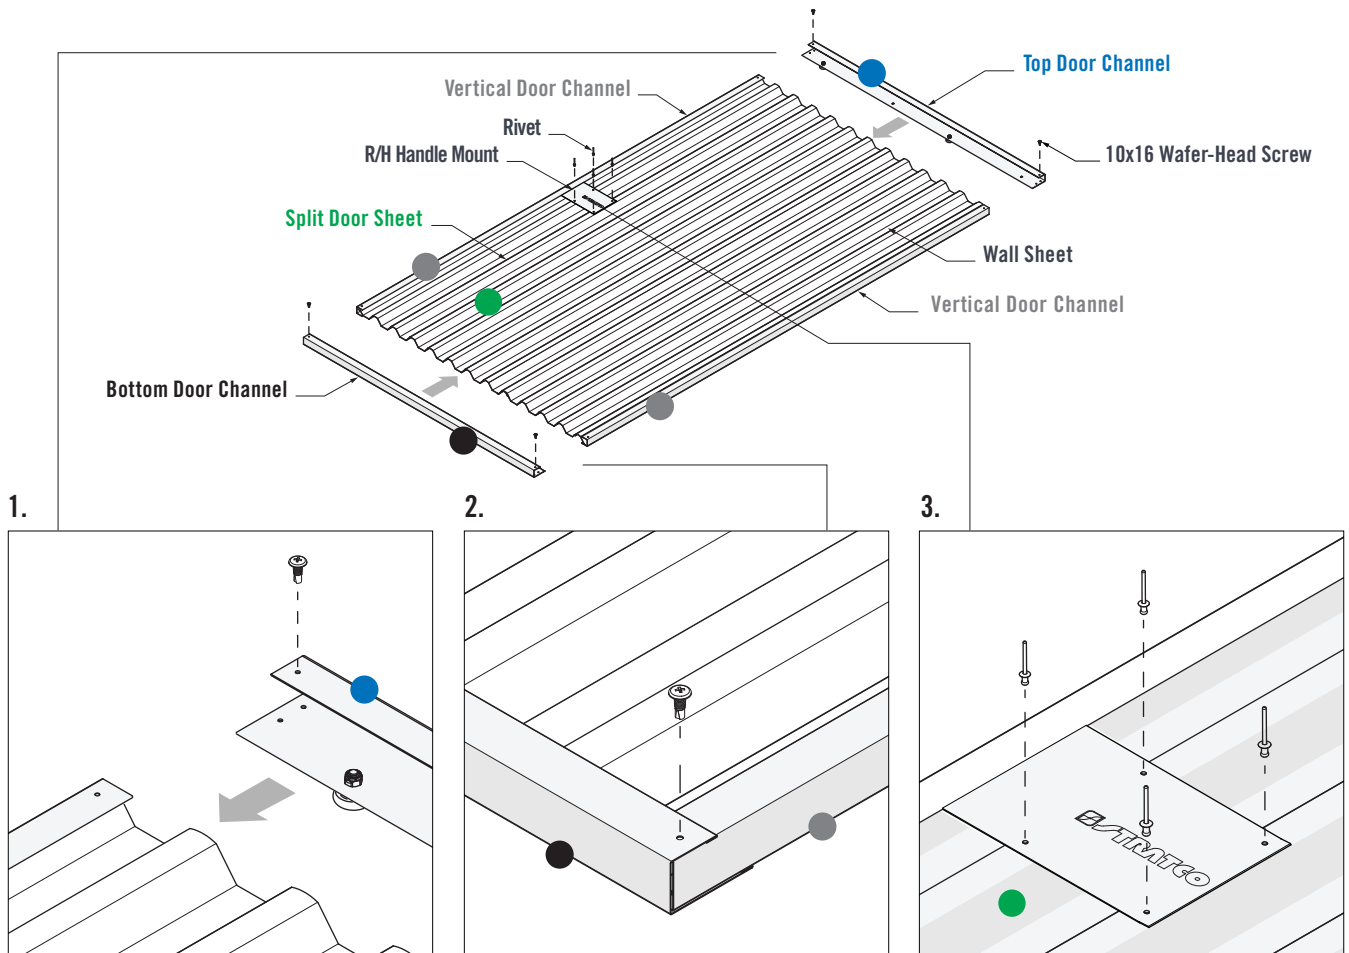

FIGURE 7.5
1. Fit the Vertical Door Channels over the side of the door sheets, then fit the Top and Bottom Door Channels over the door sheet ends. Ensure the lip of the Top and Bottom Door Channels fit over the Vertical Door Channels (Figure 7.5).
2. Fasten one 10x16 Wafer-Head Screw through the pilot holes in the corner of each Top & Bottom Channel and into the Vertical Door Channels (Figure 7.5).
3. Drill four 3.5mm holes through the Right Hand Handle Mount and into the Split Door Sheet. Install four coloured Rivets (Figure 7.5).